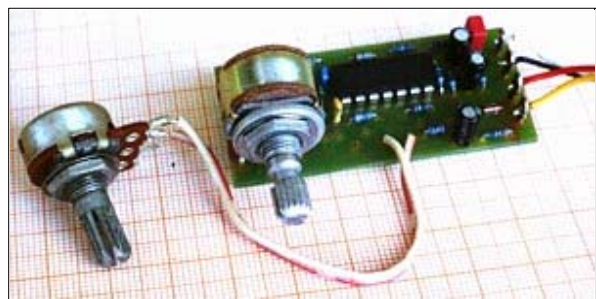

Fig.7. Active electronic circuit that acts as a second-order low-pass- filter and imitates the sound characteristics of many different guitar and bass pickups
4. Install an active electronic circuit that acts as a second-order low-pass filter. This will give you the possibility to adjust the resonant frequency and the resonance height continuously with potentiometers, instead of only in discrete steps. So you can imitate the sound characteristics of many different guitar and bass pickups. These circuits are called „State Variable Filter". The first instrument manufacturer to apply this was Alembic since the seventies, later it was copied by others. Completely mounted circuit boards of this kind, fitting into most common instruments, are available from the author (Fig. 7). They need a 9 V battery for supply, and on some instruments some space inside the body that must be routed.